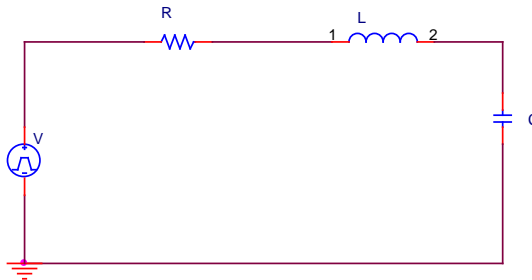

Figure 3 RLC circuit with square wave input.
4. The circuit of Figure 3 is excited by a square wave voltage of 4 V as before, but with a frequency of 500 Hz. Using Pspice obtains the plot of the variation of the voltage across the capacitor. Assume zero initial conditions. Limit the response to two cycles only. Do your simulations for the following two combinations.